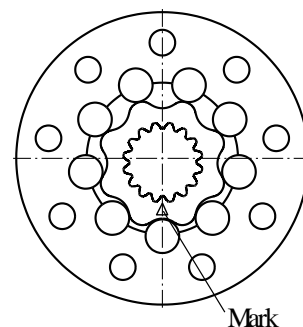

Fig.12
10. Orientate the roll-gerotor set acc.to Fig.12 and assemble the rotor splines into the cardan shaft splines. (If necessary, turn the shaft to one or another direction for keeping symmetry of rotor towards stator.)
12. Mark the rotor at the point where the tip of a spline tooth is opposite to the bottom of a tooth in the external rotor teeth as shown on Fig.12 and 13.